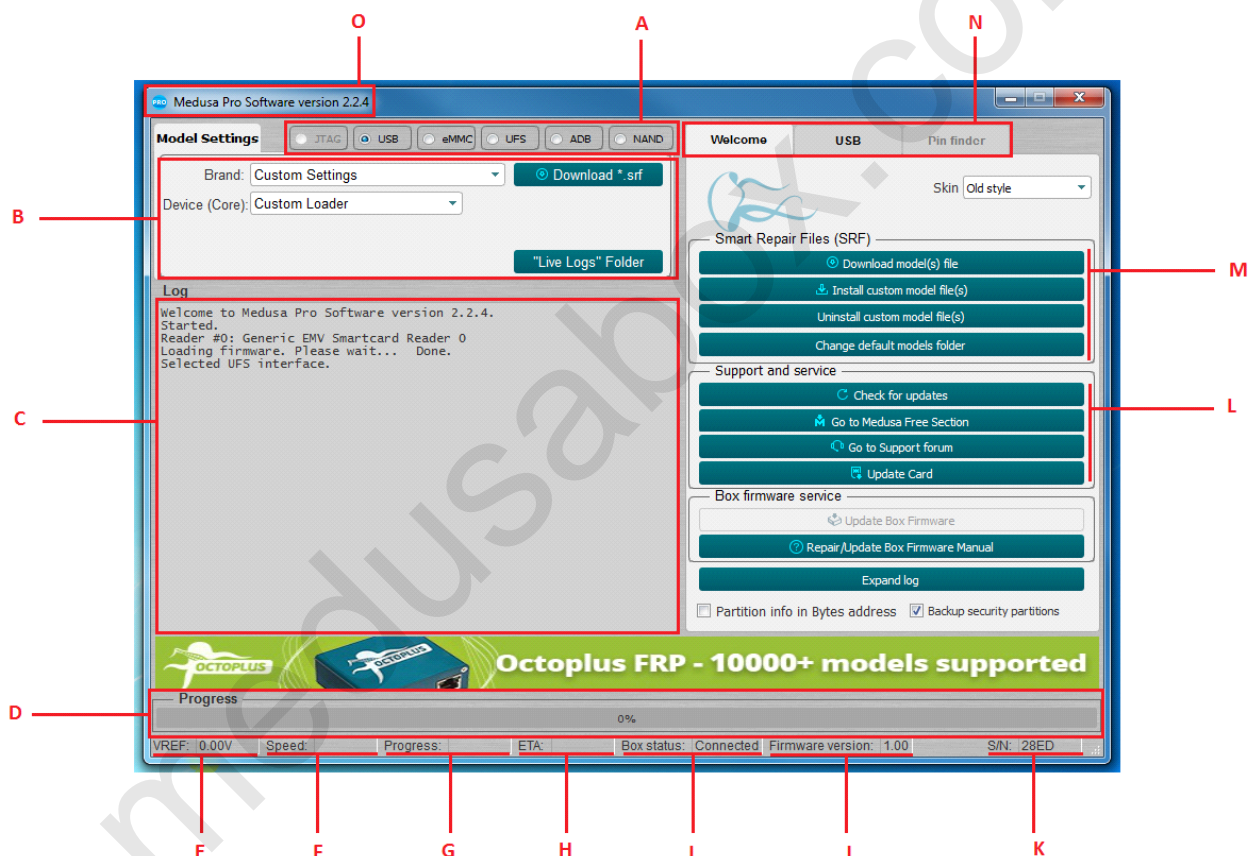

Fig. 1 Main window, "Welcome" Tab
- Group of tabs to work with the box. The first "**Welcome**" tab is shown in Fig.1 and is designated for SRF control, software version and box firmware control. The second tab depends on the selected interface (Fig. 1A). The third tab Pin Finder is not in use.
- It is necessary to physically connect the device to one of the interfaces Fig.1 (A);
- Configure the interface in the field shown in Fig.1 (B);
- The initialization results are displayed in the log (Fig. 1 (C)). In case of successful initialization, the log may contain certain device parameters, for example: device manufacturer, device model, serial number, media size, etc. If the device could not be initialized, information about the impossibility to initialize the device is displayed in the log;